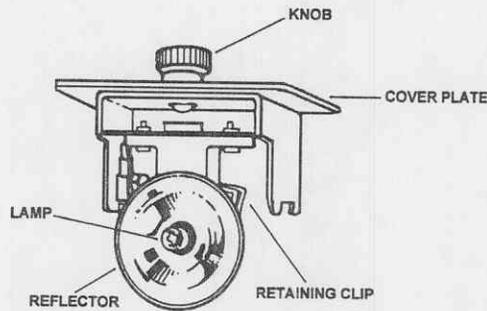

Figure 3-9. Lamp cartridge assembly.
(3) Orient the lamp cartridge assembly as illustrated in figure 3-9 and insert it into the endoscopic instrument light.